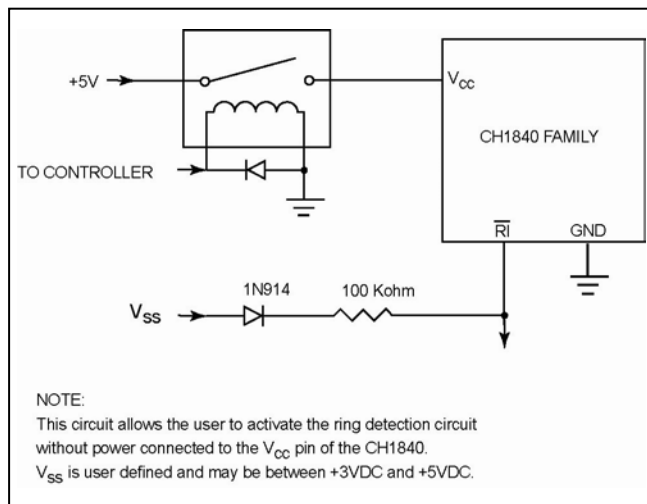

Figure 3. Low Power Ring Detection
The RI output of the CH1840 is diode protected so that an external pull-up resistor($R > 100\text{Kohm}$) to +5V may be utilized to activate the ring detection circuit when the DAA is not connected to power. This can be handy with designs in which power consumption is of concern. When circuited in this manner, there is virtually no current draw until a ring signal is present. See Figure 3.
7. The CH1840 DAA as is meets or exceeds the hazardous voltage, surge and leakage requirements of the FCC. For applications that connect to Canadian phone lines, governed by the DOC (Department of Communications) and to further protect the CH1840 from field failure on excessively poor quality lines and to maintain UL recognition, a higher level of transient protection is required, thereby making mandatory the circuit consisting of two fuses and one varistor as shown in Figure 3. Adding these three devices will not affect FCC registration. Components L1, L2, C1, C2 are optional and serve two purposes. First, they restrict high frequency signals from reaching the phone line and thereby add EMI protection. Second, they protect against externally generated RFI from degrading the modem's ability to operate on proper carrier signals. Adding these devices will not affect FCC, DOC, or UL registration.